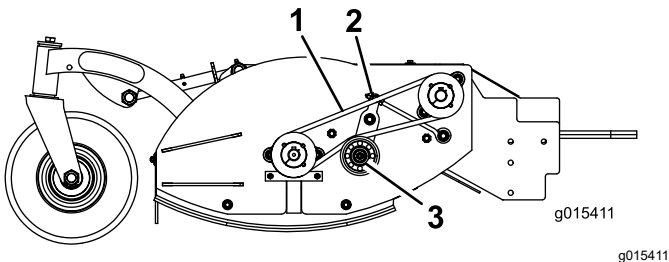

Figure 9
Visually inspect the belt (Figure 9) for dirt, wear, cracks, and/or signs of overheating.
The proper mower belt tension is 2 kg (4.5 lb) of force to deflect the belt 13 mm (1/2 inch) at the midpoint of the longest span (Figure 9).
- A. Loosen the locknut (Figure 9).